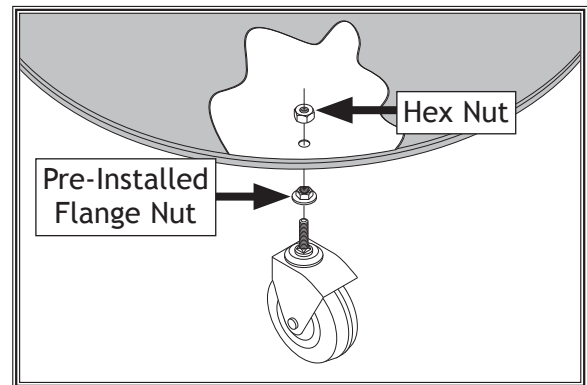

Figure 18. Cut-away illustration of 2" swivel caster attachment to collection drum.
16. Attach 2" swivel casters to collection drum, as shown in **Figure 18**, using (1) $\frac{5}{16}$ "-18 hex nut on each.
17. Adjust pre-installed flange nut and hex nut (see **Figure 18**) until drum rolls evenly without rocking or wobbling, then tighten both nuts to secure caster in place.